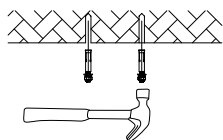

Figure 4
2. Use a hammer to put the expansion screws into the holes. (Figure 4)